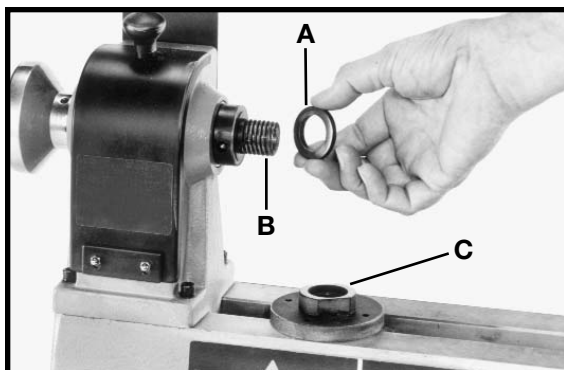

Fig. 14
2. Install spacer (A) Fig. 14 on the headstock spindle (B).